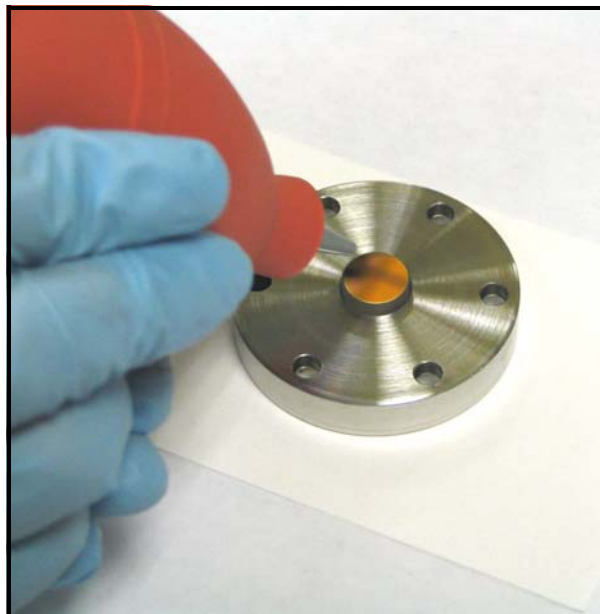

Figure 80: Drying the Mirror
9. Use the air blower to blow dry air onto the surface of the mirror. Puff repeatedly until the mirror surface appears dry (see *Figure 80* below).